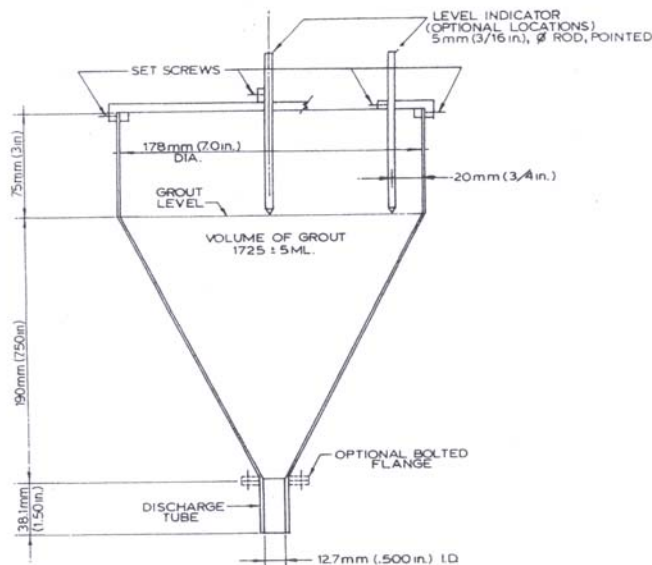

Figure 1 - Cross Section of Flow Cone
1. Flow Cone, with dimensions as shown in Figure 1. The discharge tube shall be stainless steel. The body can be stainless steel, cast aluminum, or other non-corroding metal.
1. The flow cone shall be firmly mounted in such a manner that the top will be level and the cone free from vibration. The discharge tube shall be closed by placing a rubber stopper from the underneath side into the lower end. A quantity of water equal to 1725 ± 1 mL shall be introduced into the cone to indicate the grout level as per Figure 1.
1. Moisten the inside surface of the flow cone (Note 1). Place rubber stopper into the outlet of the discharge tube. Introduce grout into the cone until the grout surface rises into contact with the grout level as per Figure 1. Start the stopwatch and remove the rubber stopper simultaneously. Stop the stopwatch at the first break in the continuous flow of grout from the discharge tube. The time indicated by the stopwatch is the time of efflux of the grout. At least two tests shall be made for any grout mixture. Results from two properly conducted tests on the same material should not differ by more than 2.50 s.